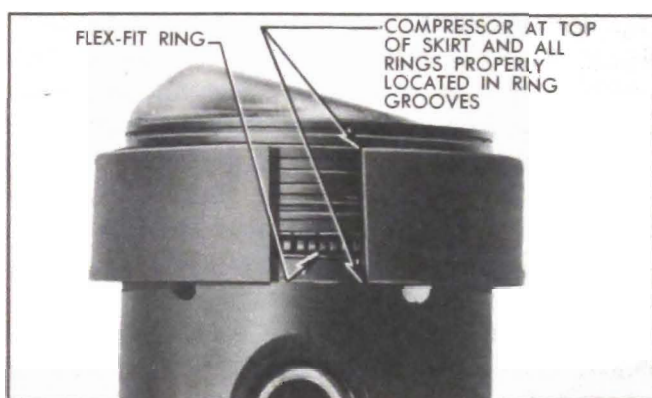

Figure 2-33—Rings Held in Place by Compressor
6. Before installation of each piston and rod assembly in cylinder bore, carefully place the Flex-Fit oil ring in the bottom groove and compress it with a tapered sleeve ring compressor of proper size. Make sure that inner surface of compressor is clean, smooth and free of burrs. The compressor must be pulled toward top of piston to compress the Flex-Fit ring as well as the other piston rings. See figure 2-33.